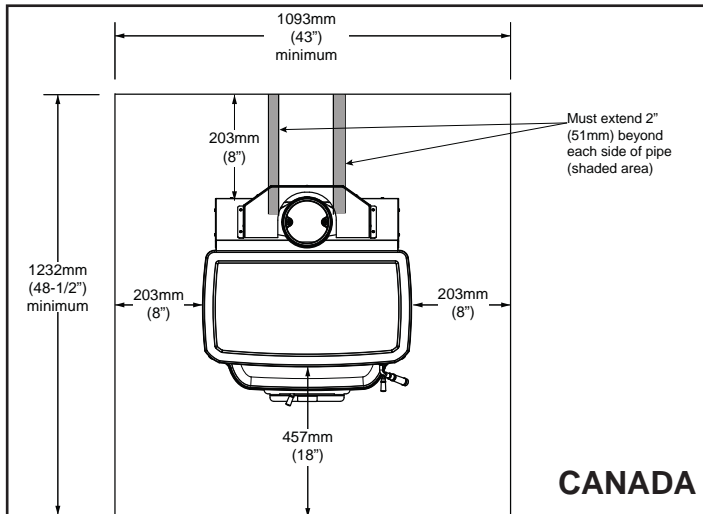

Figure 14.2
**In Canada,** similar floor protection must be provided 18 inches (457mm) in front and 8 inches (203mm) from the sides and rear of the appliance. **Figure 14.2**
**\*EXCEPTION:** Non-combustible floor protections must extend beneath the flue pipe when installed with horizontal venting and extend 2 inches (51mm) beyond each side. **See Figure 14.2**